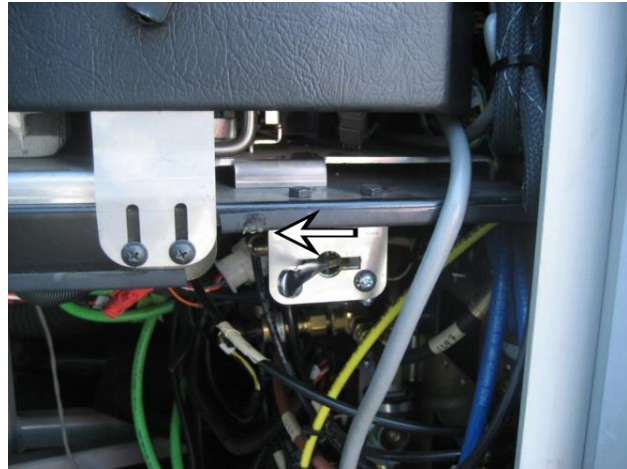

FIGURE 57: LOCATION OF COMMUTER TAG AXLE AIR VALVE
7. On X-Series commuter vehicles only, the tag axle air valve lever is located in the front service compartment. Move it forward as shown on Figure 57.